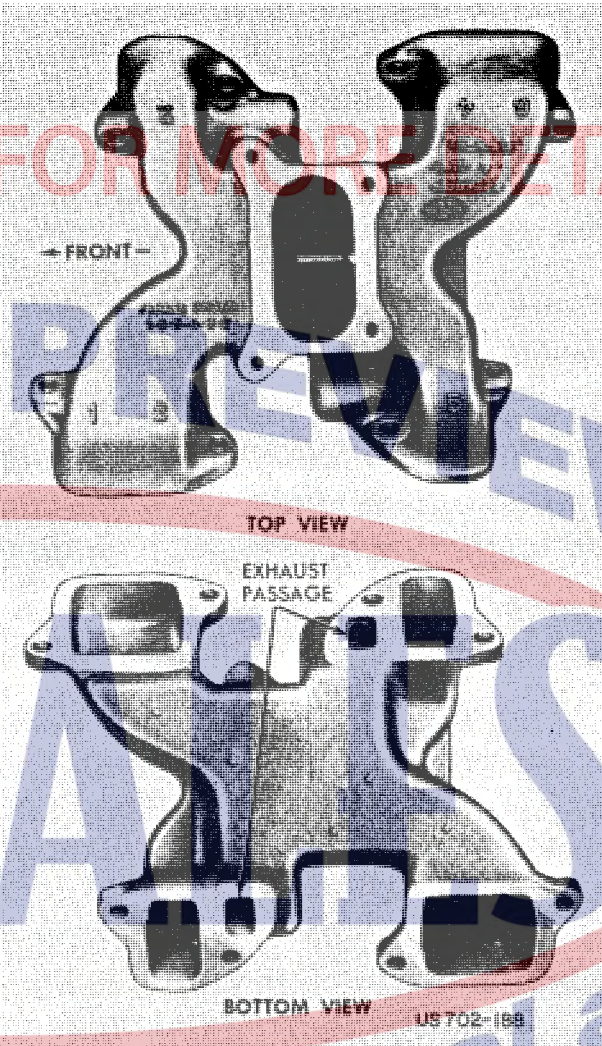

Figure 9 - Intake Manifold
3. Inspect intake manifolds (Fig. 9). Inspect for carbon deposits in exhaust passages which supply heat to the carburetor area.